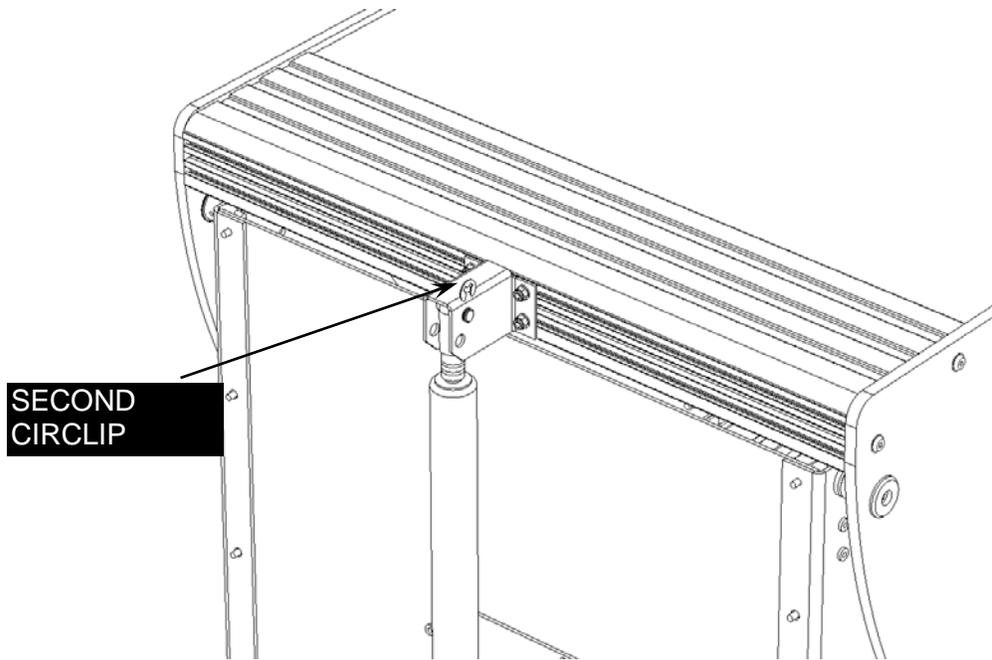

Figure 6-10: Attaching Gas Spring, Part 2
8. Slide the Pin through the top hole in the Bracket and the eye of the Gas Spring. Fit a second 'E' Clip to the other groove in the Pin (Figure 6-10).